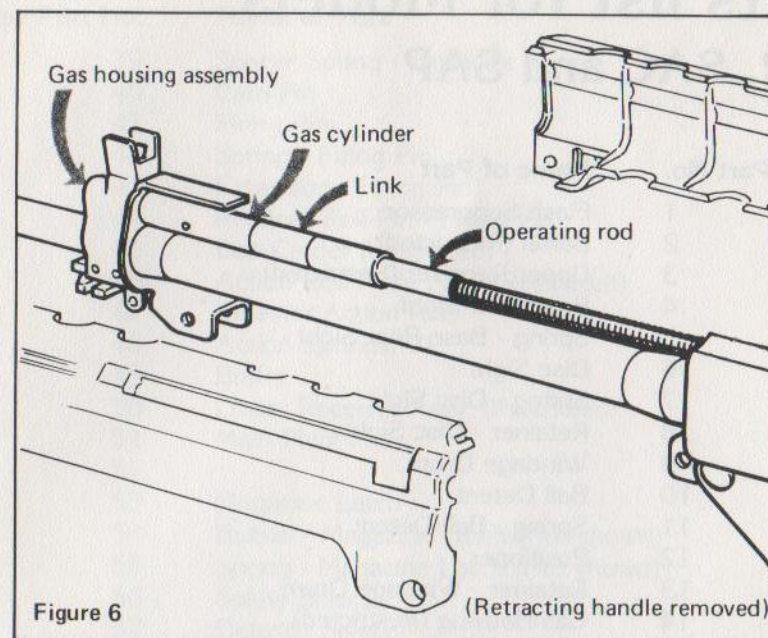

Figure 6
**CAUTION:** Do not remove gas housing assembly from barrel. (see Figure 6).